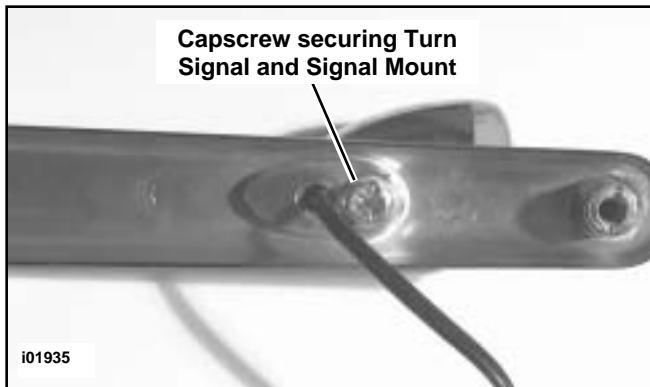

Figure 5. Remove Turn Signal and Signal Mount from Fender Support
10. See Figure 5. Remove turn signal and signal mount from fender support by removing capscrew shown. Gently pull wiring through fender support and mount. Discard mount and capscrew.